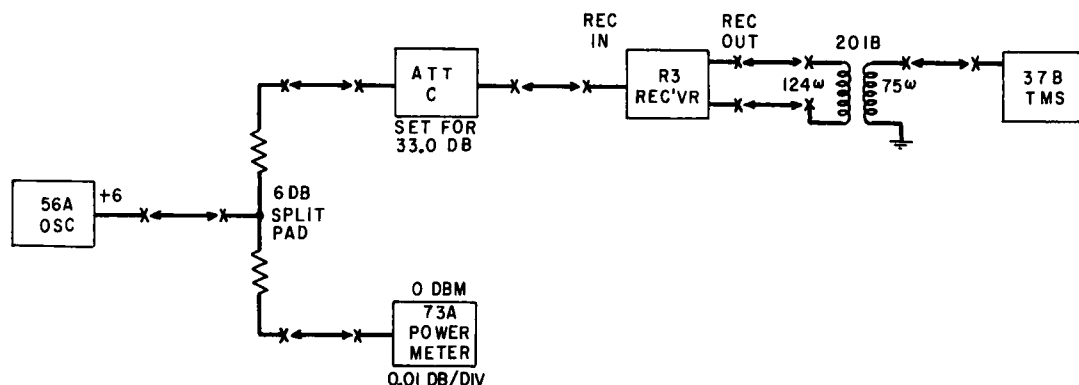

Fig. 5 — Test Arrangement for Measurement of Receiver Gain and Over-all Balance Adjustments
- (1) Calibrate the 37B TMS for 0 dbm at 139 kc per Paragraph 6.03.
- (2) Operate the POL DIS key located in the jack field to TST position.
- (3) Set the 56A oscillator for 4 mc and adjust output for 0 dbm on the 73A power meter.
- (4) Set up the test arrangement of Fig. 5 with the 37B connected to the REC OUT jacks through a 201B coil.
- (5) Tune the 37B TMS to 139 kc and measure level at REC OUT jacks in jack field.
- (6) Adjust the SIG GAIN control to obtain about 0 dbm level on the 37B TMS.
- (1) Set up test arrangement as shown in Fig. 5 with the 201B connected to REC OUT jacks and the 56A oscillator adjusted to 0 db output at 4 mc.
- (2) Tune the 37B TMS to 4 mc and measure the signal leak.
- (1) Set up test arrangement shown in Fig. 5, except that 56A oscillator is tuned for 8 mc output.
- (2) Tune the 37B TMS to 4.417 mc and measure level.
- (3) Adjust the HARM PHASE ADJ control with a nonmetallic screwdriver to obtain a minimum output power at 4.417 mc.